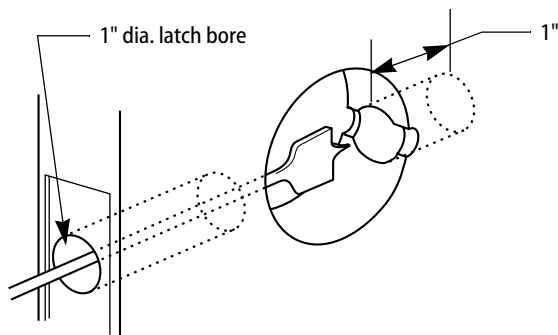

Figure 1—Extending the latch bore to provide for wire connections
- With a 1" diameter drill bit extending through the latch hole, drill on the opposite side of the 2 1/8" bored hole to a minimum depth of 1" as shown in Figure 1.